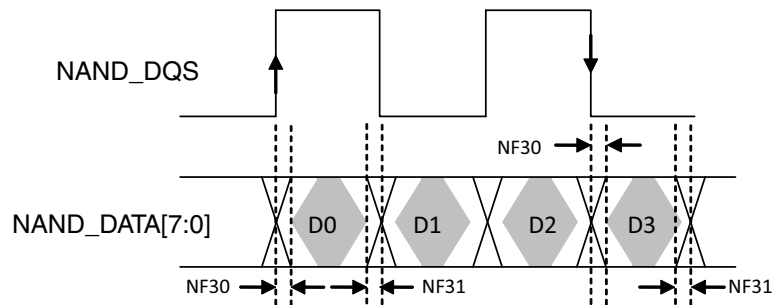

Figure 33. NAND_DQS/NAND_DQ Read Valid Window
For DDR Source sync mode, Figure 33 shows the timing diagram of NAND_DQS/NAND_DATAxx read valid window. The typical value of tDQSQ is 0.85 ns (max) and 1 ns (max) for tQHS at 200 MB/s. GPMI will sample NAND_DATA[7:0] at both rising and falling edge of an delayed NAND_DQS signal, which can be provided by an internal DPLL. The delay value can be controlled by GPMI register GPMI_READ_DDR_DLL_CTRL.SLV_DLY_TARGET (see the GPMI chapter of the i.MX 6Solo/6DualLite reference manual). Generally, the typical delay value of this register is equal to 0x7 which means 1/4 clock cycle delay expected. But if the board delay is big enough and cannot be ignored, the delay value should be made larger to compensate the board delay.
- ⁷ Shown in Figure 33, NAND_DQS/NAND_DQ Read Valid Window.
For DDR Toggle mode, Figure 33 shows the timing diagram of NAND_DQS/NAND_DATA_{xx} read valid window. The typical value of tDQSQ is 1.4 ns (max) and 1.4 ns (max) for tQHS at 133 MB/s. GPMI will sample NAND_DATA[7:0] at both rising and falling edge of an delayed NAND_DQS signal, which is provided by an internal DPLL. The delay value of this register can be controlled by GPMI register GPMI_READ_DDR_DLL_CTRL.SLV_DLY_TARGET (see the GPMI chapter of the i.MX 6Solo/6DualLite reference manual). Generally, the typical delay value is equal to 0x7 which means 1/4 clock cycle delay expected. But if the board delay is big enough and cannot be ignored, the delay value should be made larger to compensate the board delay.